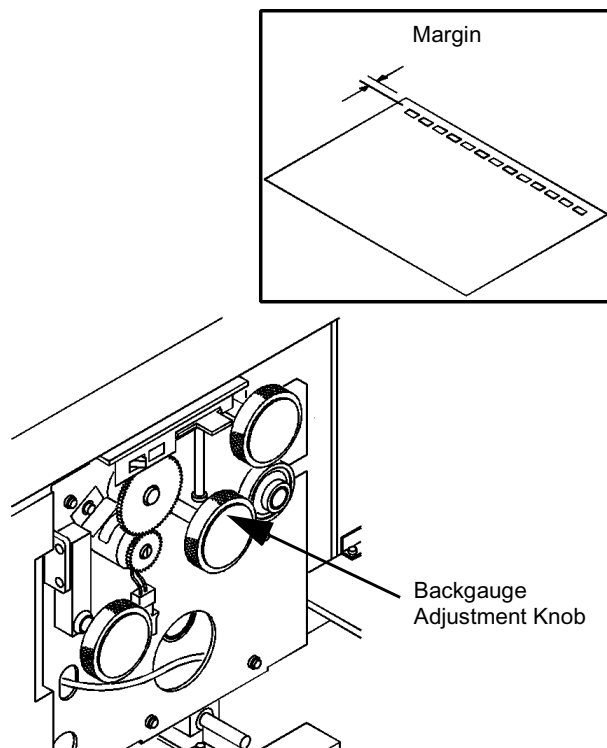

Figure 2-9: Setting the Backgauge Adjustment
- 4 Use the Backgauge Adjustment Knob to correct the margin, as shown in Figure 2-9. Adjust as follows: